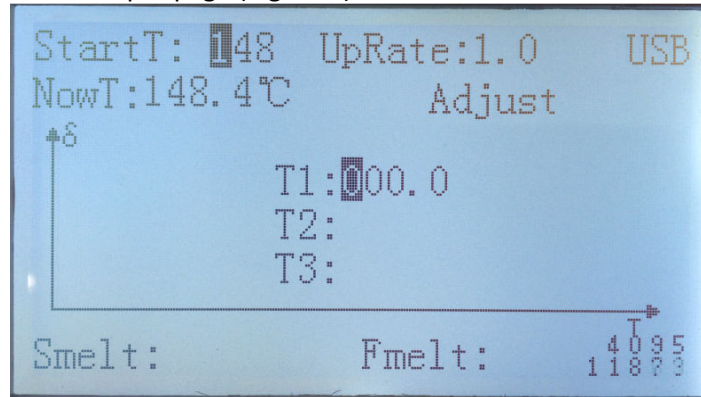

Figure 9
- b) Press the "1" key, which means re-calibrating the parameters, and the instrument will show the temperature input page (Figure 9):